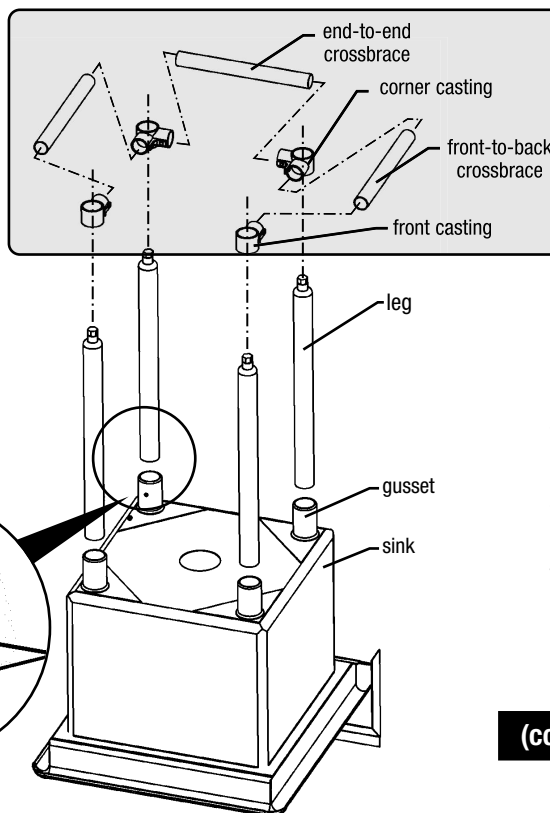

figure 1
- Place sink upside down (see figure 1).
- Assemble all crossbraces, front castings and corner castings as shown (figure 1). Using allen wrench, secure crossbraces into castings —1 set screw* per front casting, 2 set screws* per corner casting.